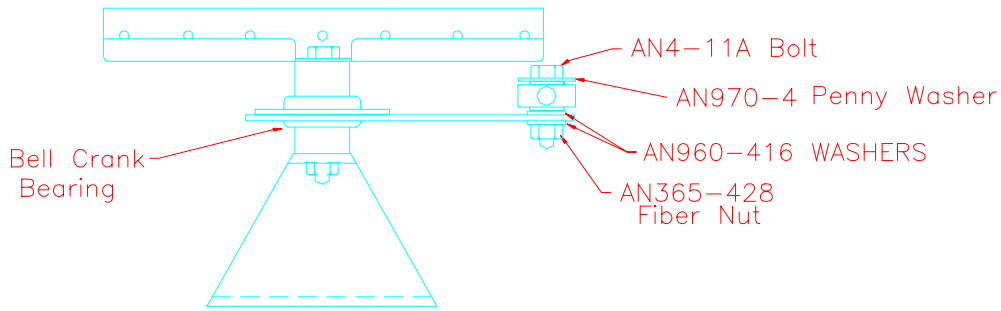

Figure 15.6.14
19) Attach the other end of the push-pull tube to the bell crank with an AN4-11A bolt, AN970-3 washer (drilled out to 1/4”), 2 AN960-416 washers, AN365-428 fiber nut. Figure 15.6.14.